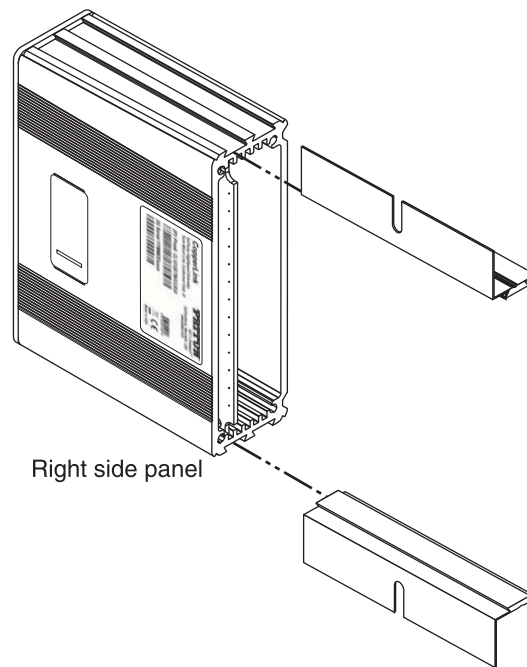

Figure 9. Installing the mounting ears
2. Slide a mounting ear into the top slot closest to the CL1200E back panel as shown in figure 9.
3. Slide the remaining mounting ear into the bottom slot closest to the CL1200E right side panel (see figure 9).